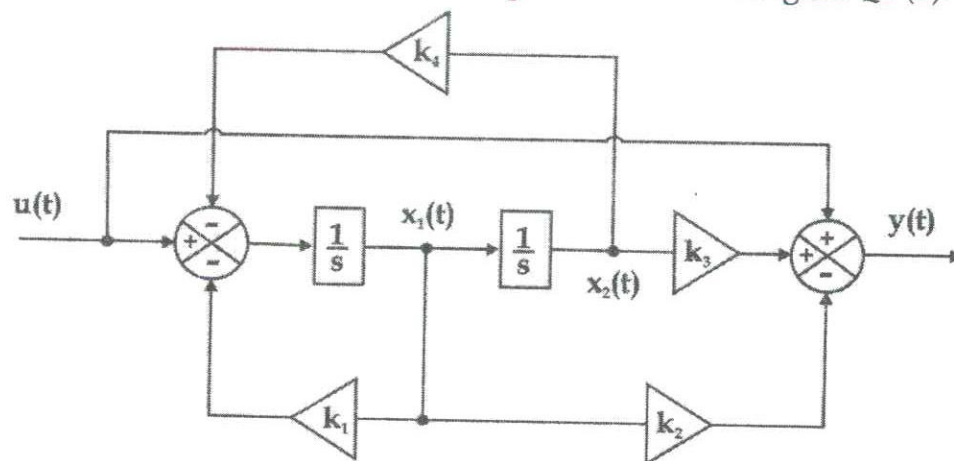

Figure Q2(b).
- b) Consider the plant of which the block diagram is shown in Figure Q2 (b).
- i) If the state vector of the plant can be denoted as $[x_1 \ x_2 \ \dots \ x_n]$ and the block diagram has 6, 2, 1 and 8 for k_1 , k_2 , k_3 and k_4 respectively, formulate the state space model of the plant shown in Figure Q2 (b).